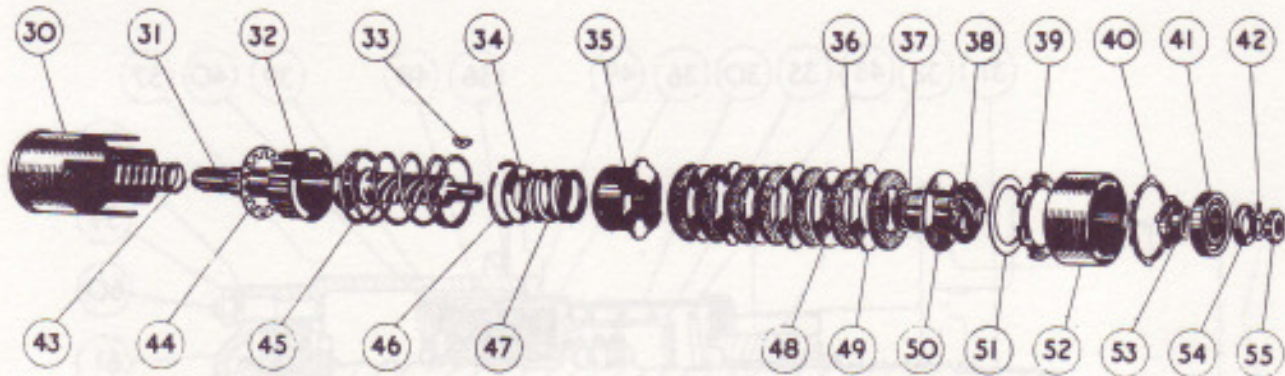

FIG. 18. "EXPLODED" VIEW OF DRIVE.
| 58. Spring washer.           | 61. End Cover. | for Fig.18.)       |
In the case of the five cork disc clutch, the corks may have fractured; this will entail converting the drive to the seven disc type. For this, the following parts will be required: Three new steel discs (48, Fig.18) with a narrower spigot on the inner diameter to replace the two existing spigoted discs, also one additional inner clutch disc with projections (49) similar to the existing type and seven new Ferodo CR friction discs.